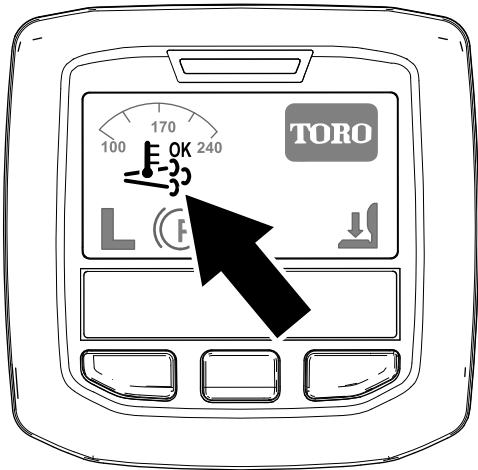

Figure 24
- The assist/reset-regeneration icon displays in the InfoCenter (Figure 24).